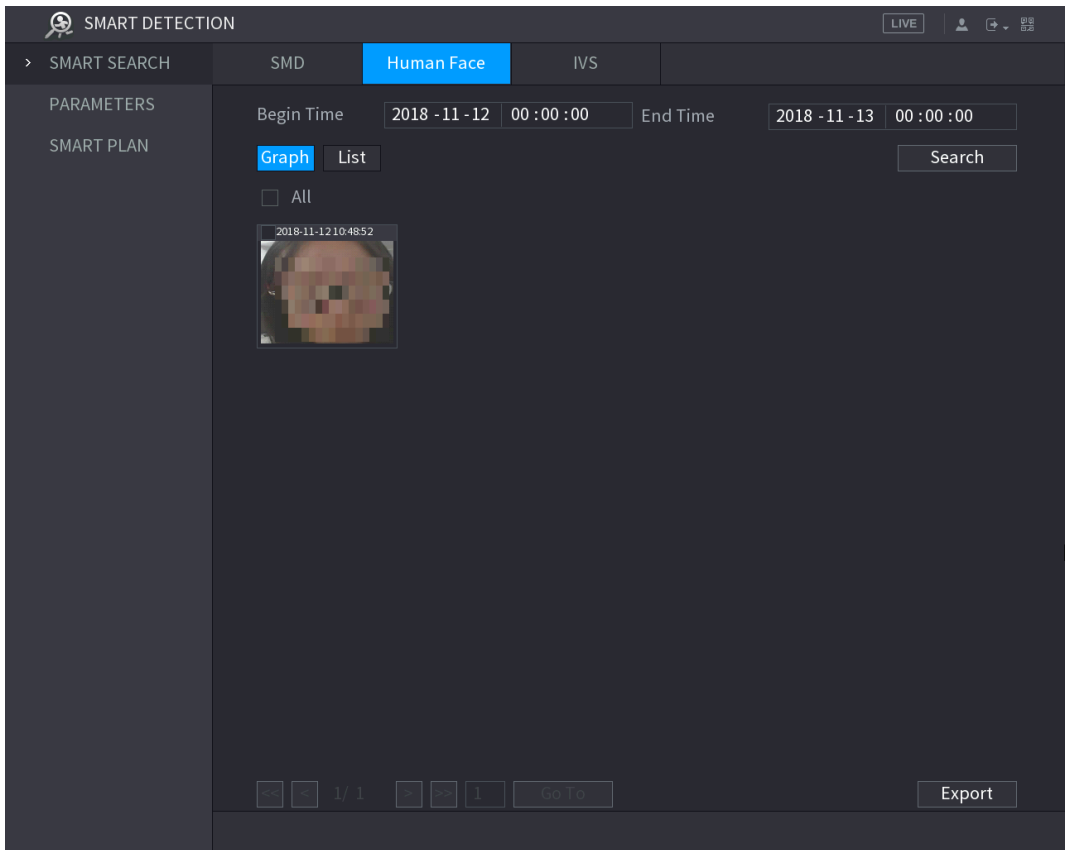
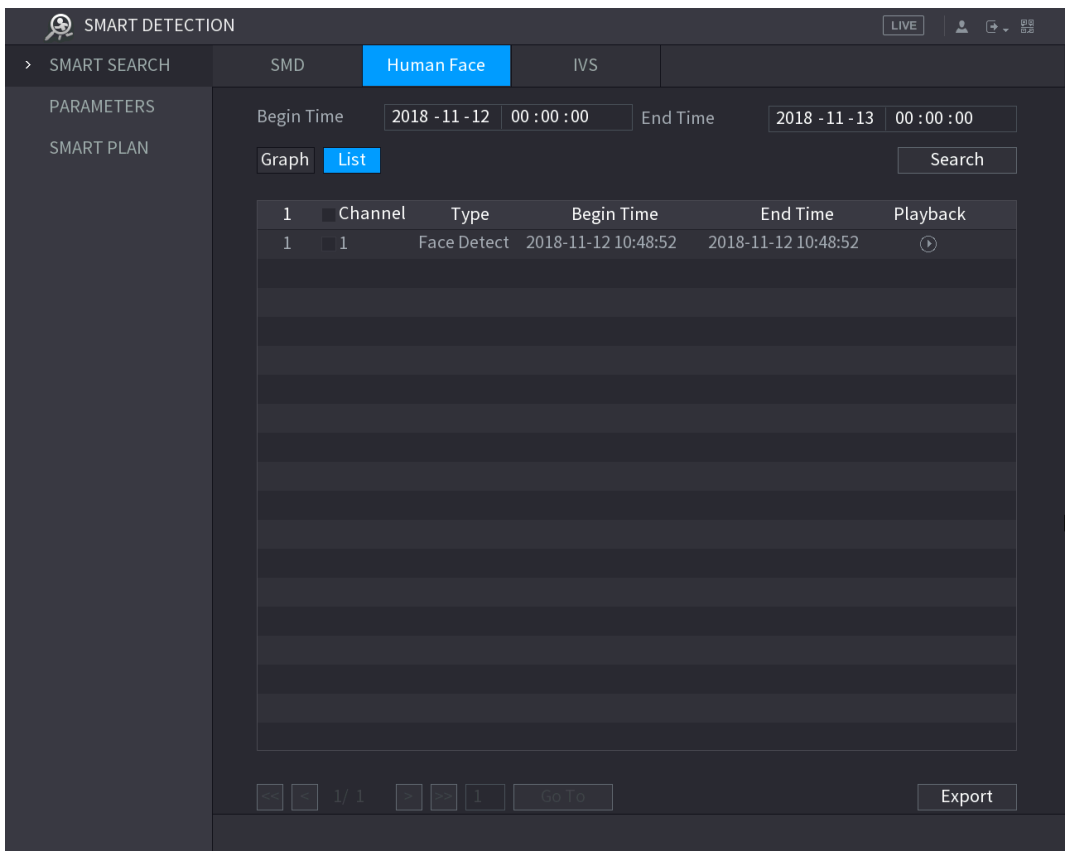

Figure 5-138
Figure 5-139
The faces searched in the defined period are displayed. See Figure 5-138 or Figure 5-139.
- Step 1 On the displayed faces as shown in Figure 5-138, double-click on the face.